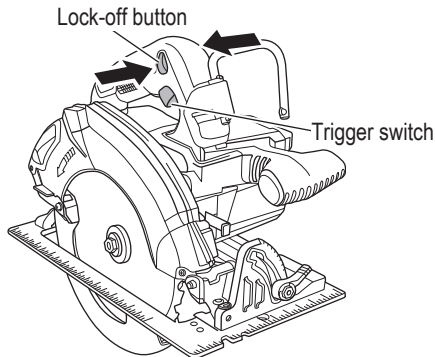

Fig. 23
- Operation of switch (Fig. 23)